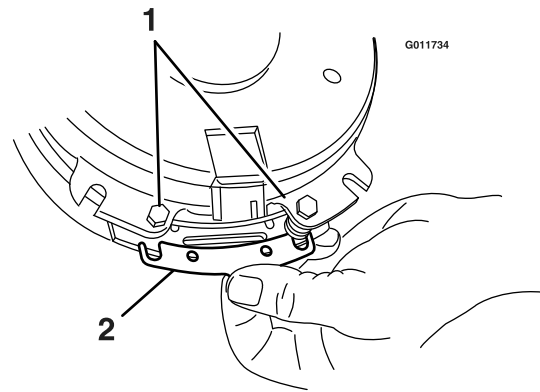

Figure 54
- A. Loosen both brake mounting bolts one-half to one full turn (see Figure 54).